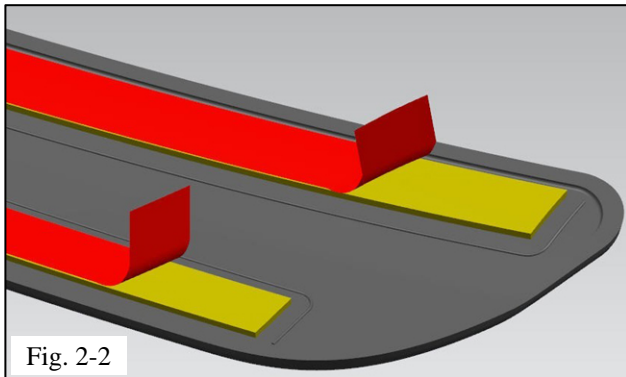

Fig. 2-2
- (b) While carefully holding the rear bumper protector by its edges, pull all the plastic liner tabs at the ends of the tapes to expose approximately 1½" (40mm) of tape (Fig. 2-2).